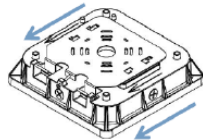

Figure 2
2. Slide the mounting plate toward Screw A, and then remove it from the luminaire body (see Figures 2 & 3).